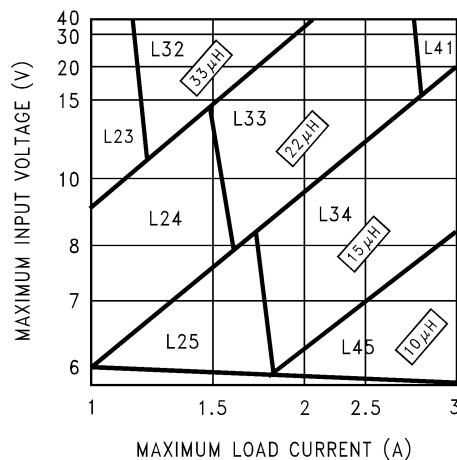

Figure 21. LM2670-3.3
Step 3: Determine the inductor required by using one of the four nomographs, Figure 21 through Figure 24. Table 1 provides a specific manufacturer and part number for the inductor.
Step 5: Determine an input capacitor from Table 8 or Table 9 for fixed output voltage applications. Use Table 3 or Table 4 to find the specific capacitor type. For adjustable output circuits select a capacitor from Table 3 or Table 4 with a sufficient working voltage (WV) rating greater than $V_{in\ max}$, and an rms current rating greater than one-half the maximum load current (2 or more capacitors in parallel may be required).
Step 3: Use the nomograph for the 3.3V device, Figure 21. The intersection of the 16V horizontal line ($V_{in\ max}$) and the 2.5A vertical line ($I_{load\ max}$) indicates that L33, a 22 μ H inductor, is required.